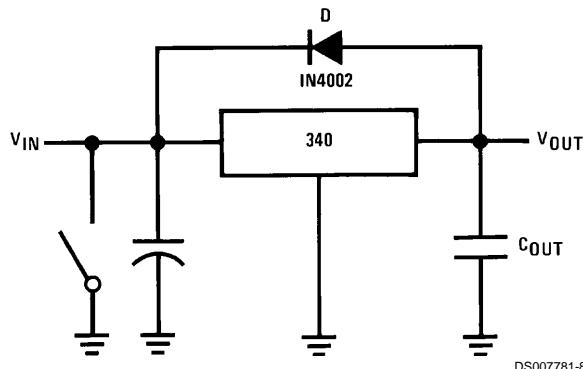

FIGURE 1. Input Short
**Shorting the Regulator Input:** When using large capacitors at the output of these regulators, a protection diode connected input to output (Figure 1) may be required if the input is shorted to ground. Without the protection diode, an input
short will cause the input to rapidly approach ground potential, while the output remains near the initial  $V_{OUT}$  because of the stored charge in the large output capacitor. The capacitor will then discharge through a large internal input to output diode and parasitic transistors. If the energy released by the capacitor is large enough, this diode, low current metal and the regulator will be destroyed. The fast diode in Figure 1 will shunt most of the capacitors discharge current around the regulator. Generally no protection diode is required for values of output capacitance  $\leq 10 \mu F$ .